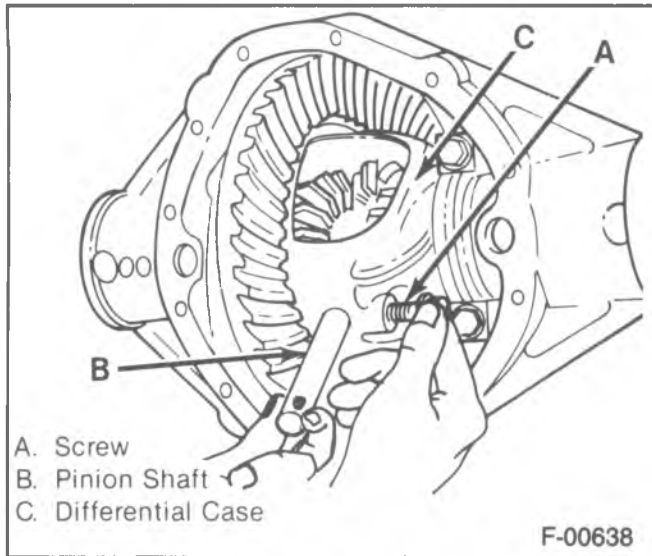

Figure 8—Removing/Installing the Differential Pinion
5. Pinion shaft (figure 8).
6. Screw (A).